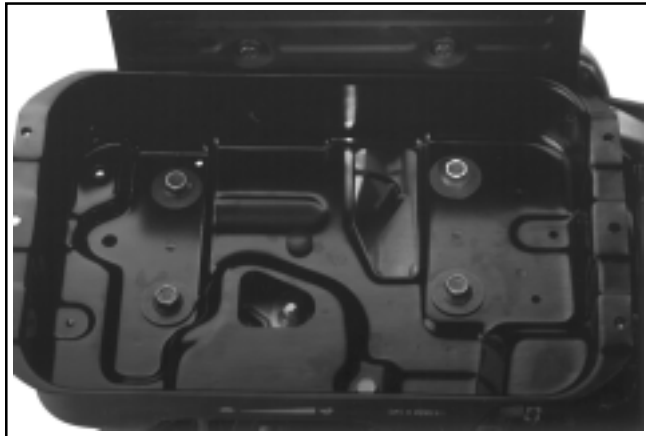

Figure 9-11. CS8.5 (spec. 95xxxx) Fuel Tank Support.
- On CS8.5 (spec. 95xxxx) remove the five screws and washers securing the fuel tank support to the crankcase, and the single screw into the throttle control bracket. Lift off the fuel tank support. See Figure 9-11.